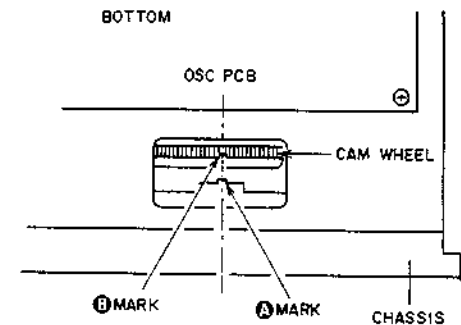

Fig. 4-2
- b. Adjust VR1 slightly so that the center of marker ② coincides with the center of marker ③ in the STOP mode as shown in Fig. 4-2. (The marker ③ on the CAM WHEEL can be seen clearly by lighting it from the back.)